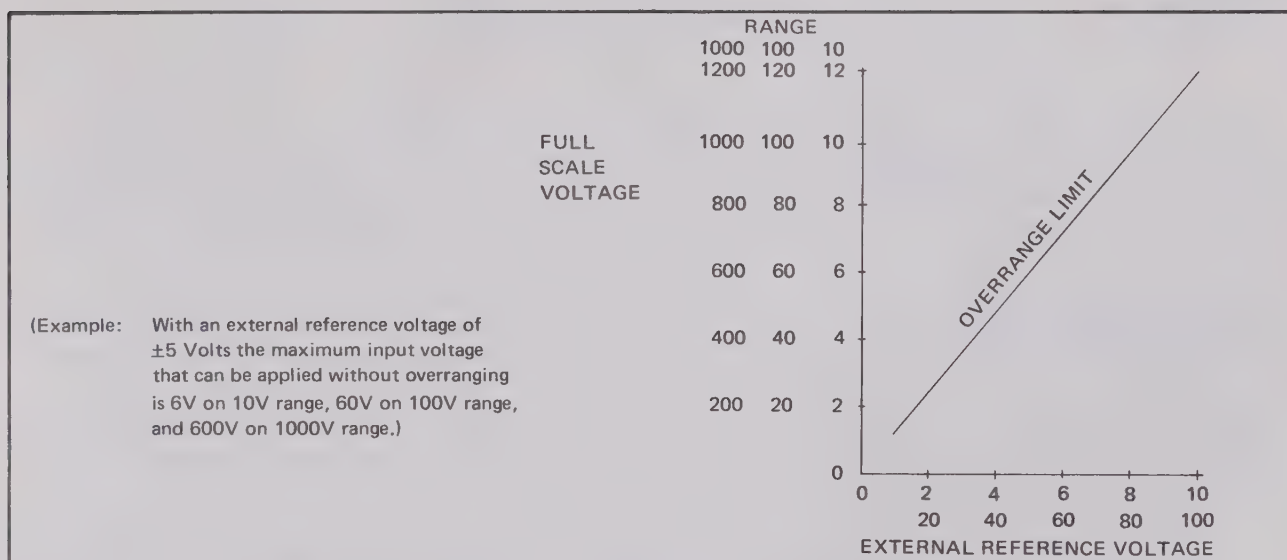

Figure 7. RATIO OVERRANGE LIMITS
- Select the Model AN/GSM-64B range according to the external reference and input voltage values as shown in Table 2. Figure 7 shows the overrange limit of input voltage to external reference voltage.